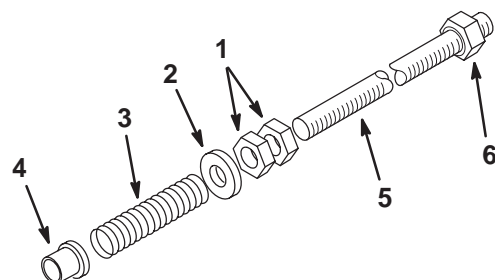

Figure 6
4. Thread 2 jam nuts (1/2 inch) approximately 9 inches (23 cm) up on each adjusting shaft (Fig. 6).
5. Slide a spacer (1/2 inch), spring, and bushing onto each adjusting shaft. Make sure to install the bushing with the flange end against the spring (Fig. 6).